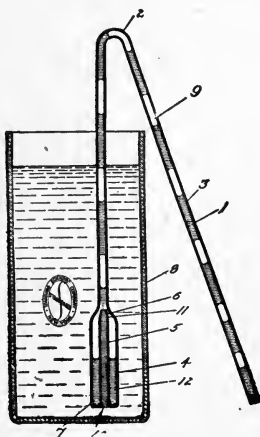

FIG. 34.
The self-starting device is shown in Fig. 34, and consists of a bulb (4) sealed into the lower end of the tube (2) and an inner tube (5) sealed into the base of the bulb and reaching into the opening of the bulb at the top. Here the end is somewhat constricted, and its size and position with respect to the top of the bulb are so adjusted that an "air trap" is produced at (6). A small opening (7) is made at the lower part of the bulb.